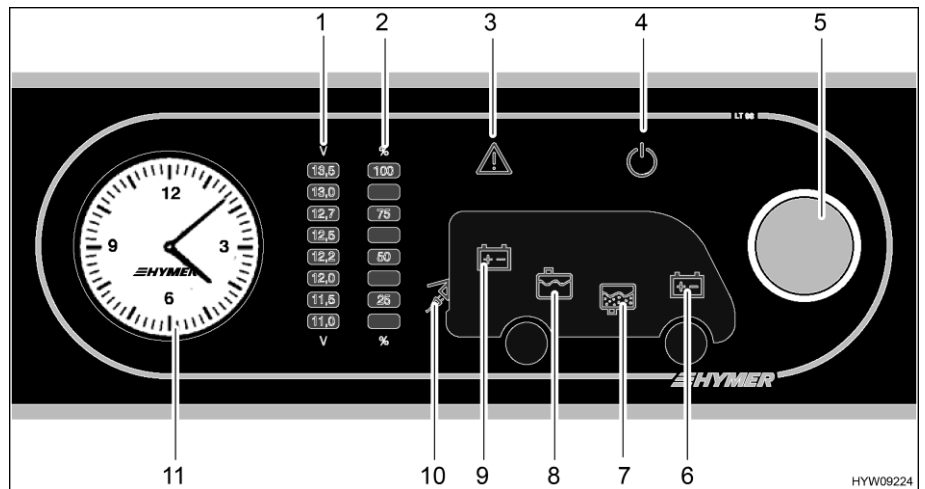

Fig. 146 Panel (LT 98)
The rotary knob (Fig. 146,5) switches the panel and the 12 V power supply to the living area on and off.
- Press the rotary knob (Fig. 146,5): The 12 V living area power supply is switched on. The 12 V indicator lamp (Fig. 146,4) lights up.
- Press the rotary knob (Fig. 146,5): The 12 V living area power supply is switched off. The 12 V indicator lamp (Fig. 146,4) goes - off.
Use the rotary knob (Fig. 146,5) for reading the voltage of the living area battery as well as that of the starter battery. The voltage is displayed on the indicator scale for battery voltage (Fig. 146,1).
- Turn the rotary knob (Fig. 146,5) until the symbol for the desired battery lights up.
Living area battery voltage is displayed (Fig. 146,9)
Starter battery voltage is displayed (Fig. 146,6)
- Read the voltage from the indicator scale for battery voltage (Fig. 146,1).
Use the rotary knob (Fig. 146,5) for checking the fill level of the water tank or the waste water tank. The fill level is displayed on the indicator scale for the tank fill level (Fig. 146,2).
- Turn the rotary knob (Fig. 146,5) until the symbol for the desired tank lights up.
The level of the water tank is displayed (Fig. 146,8)
The level of the waste water tank is displayed (Fig. 146,7)
- Read the level from the indicator scale for the tank fill level (Fig. 146,2).
The Alarm warning light (Fig. 146,3) flashes if set limit values are exceeded or fallen below.
The Alarm warning light (Fig. 146,3) flashes if the battery voltage falls below 11 V. If the 12 V power supply is switched on, the relevant battery symbol (Fig. 146,6 or 9) also lights up and "11.0" starts flashing on the indicator scale for battery voltage (Fig. 146,1). Danger of total discharge.
The Alarm warning light (Fig. 146,3) starts to flash and the corresponding tank symbol (Fig. 146,7 or 8) lights up as soon as the water tank is empty or the waste water tank is full.
The 230 V indicator lamp (Fig. 146,10) illuminates whenever line voltage is available at the transformer/rectifier input.